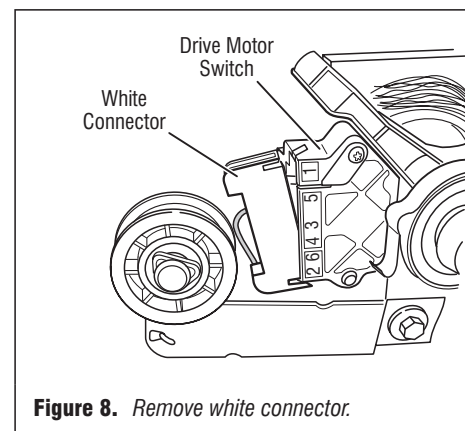

Figure 8. Remove white connector.
5. Remove the white connector from the drive motor switch. See figure 8.